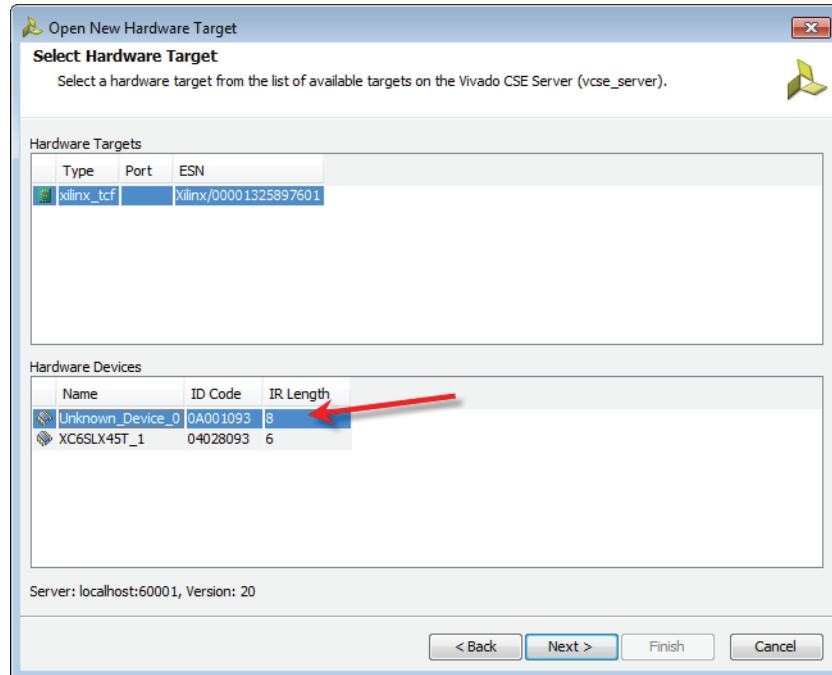

Figure 2-6: Instruction Register Length
**Note:** If one or more of the devices is unknown to Vivado, you can provide the instruction register (IR) length directly in the **Hardware Devices** table of the Open New Hardware Target wizard (Figure 2-6).